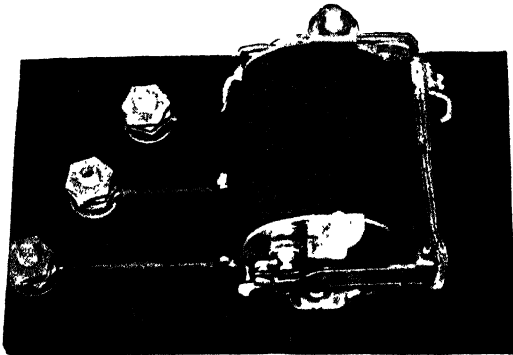

Fig 354. Wagner Cut-Out
**Control.** *Battery Cut-Out.* The complete instrument, minus its cover, is shown in Fig. 354. It is of standard design and is intended